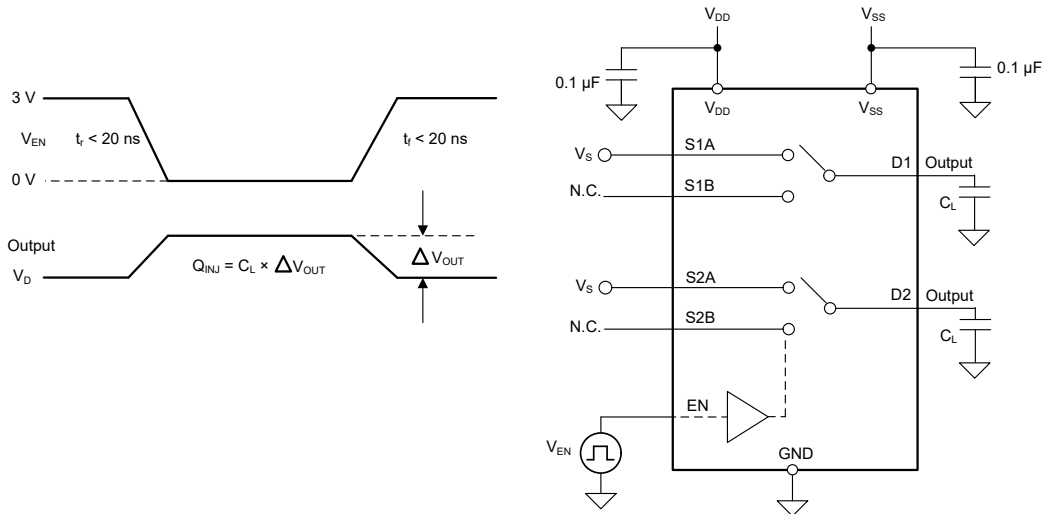

图 6-9. Charge-Injection Measurement Setup
The TMUX7236 has a transmission-gate topology. Any mismatch in capacitance between the NMOS and PMOS transistors results in a charge injected into the drain or source during the falling or rising edge of the gate signal. The amount of charge injected into the source or drain of the device is known as charge injection, and is denoted by the symbol Q_{INJ} . 图 6-9 shows the setup used to measure charge injection from source (Sx) to drain (D).